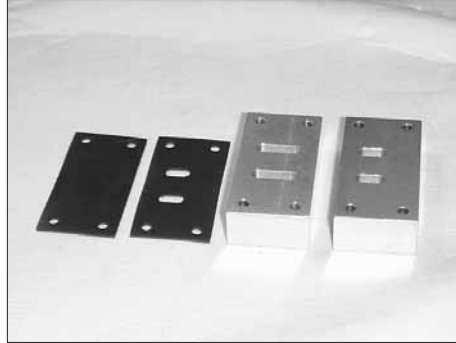

Figure 7-84 Block-off plate components
1. See Figure 7-84. Refer to the applicator-specific reference drawing provided with this manual to determine the correct block-off plate configuration.